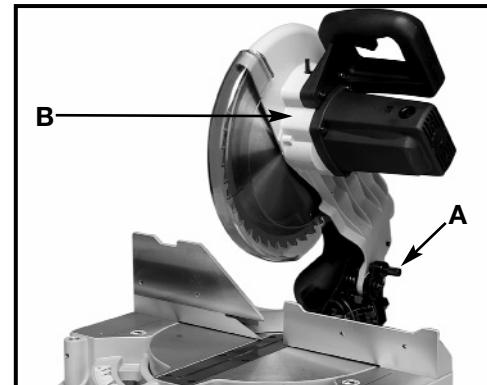

Fig. 5
5. The machine is shipped with the cuttinghead locked in the down position and the table rotated to 45° left, as shown in Fig. 3. To release the head and move it to the operating position, see “MOVING CUTTINGHEAD TO THE UP POSITION” and “MOVING THE TABLE TO THE 0° CUT-OFF POSITION” in this manual (Fig. 5 & 7).
2. Fig. 5, illustrates the lockpin (A) pulled out and the cuttinghead (B) in the up position.